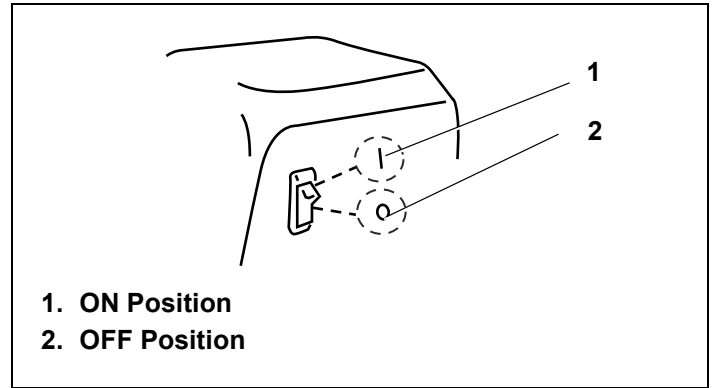

Figure 23. Engine Stop Switch
2. Move engine Stop Switch or Low Oil Shutdown Switch to "ON", if present (see equipment manufacturer's instructions). See Figures 23 and 24.